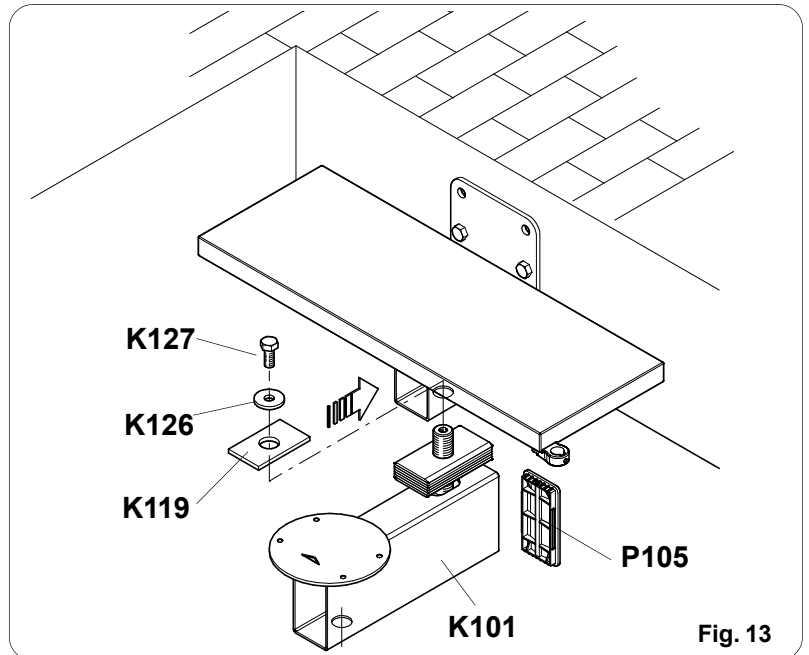

Fig. 13
- Having formed a unit, insert the projecting part of the pin into the hole placed under the step support module mounted previously. Insert the **K119** plate into the pipe of the unit described above and anchor everything by means of the **K127** screw and the **K126** washer. To facilitate screwing operations, we recommend using a jack spanner to screw in the screw until it starts tightening. Since the tread must still be adjusted, the unit must not be tightened fully. Moreover, before assembling the module, insert the **P105** plug from behind. (fig. 13)